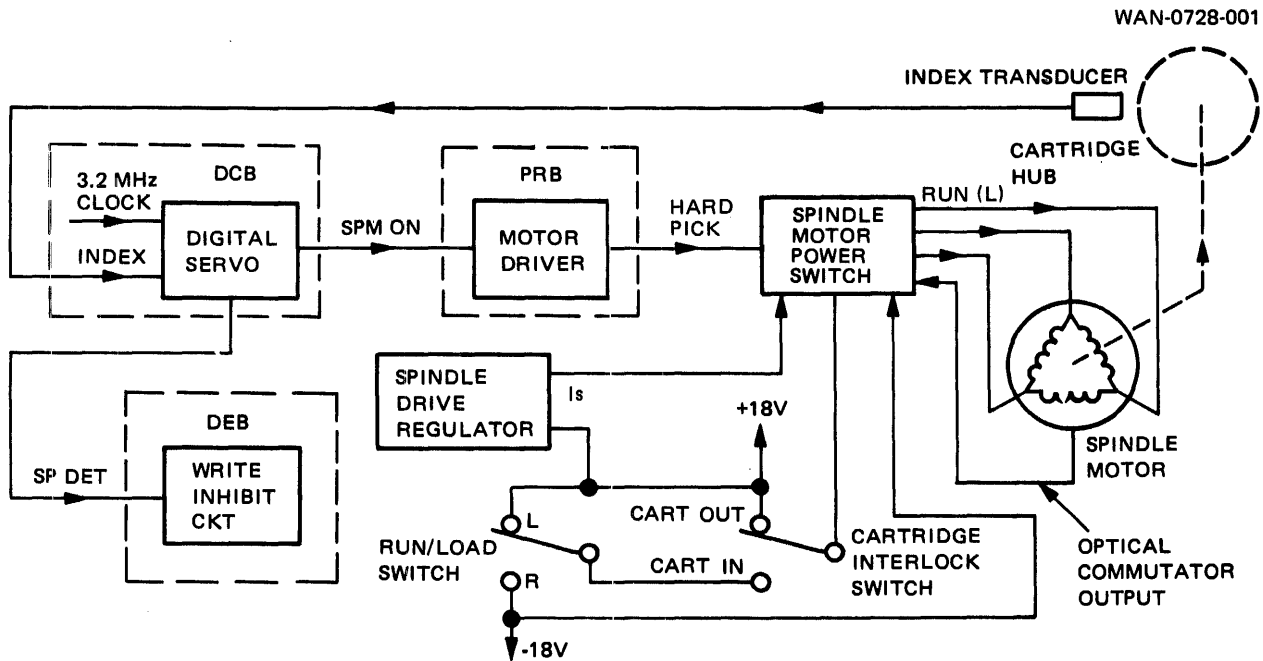

Figure 4-12. Spindle Speed Control Servo System
Drive current is routed to the Spindle Motor Power Switch Board through the Power Regulator Board as shown in Figure 4-12. Another input to the Spindle Drive Motor Power Switch Board is from the Spindle Drive Regulator Board which is located in the air filter cavity with the Motor Power Switch Board. The SPINDLE MOTOR ON (SPM ON) line from the DCB to the PRB becomes HARD PICK to the Spindle Motor Power Switch board and then is applied to the motor armature as RUN (L). On 200 TPI units, this should not occur until the spindle has reached approximately 70% of its nominal rotational speed. The SPM ON signal will be present until the spindle has reached its rated operational speed, at which time, the signal will be turned off. The SPM ON signal will not be generated again unless spindle rotational speed drops at least 1% below its nominal operational speed.